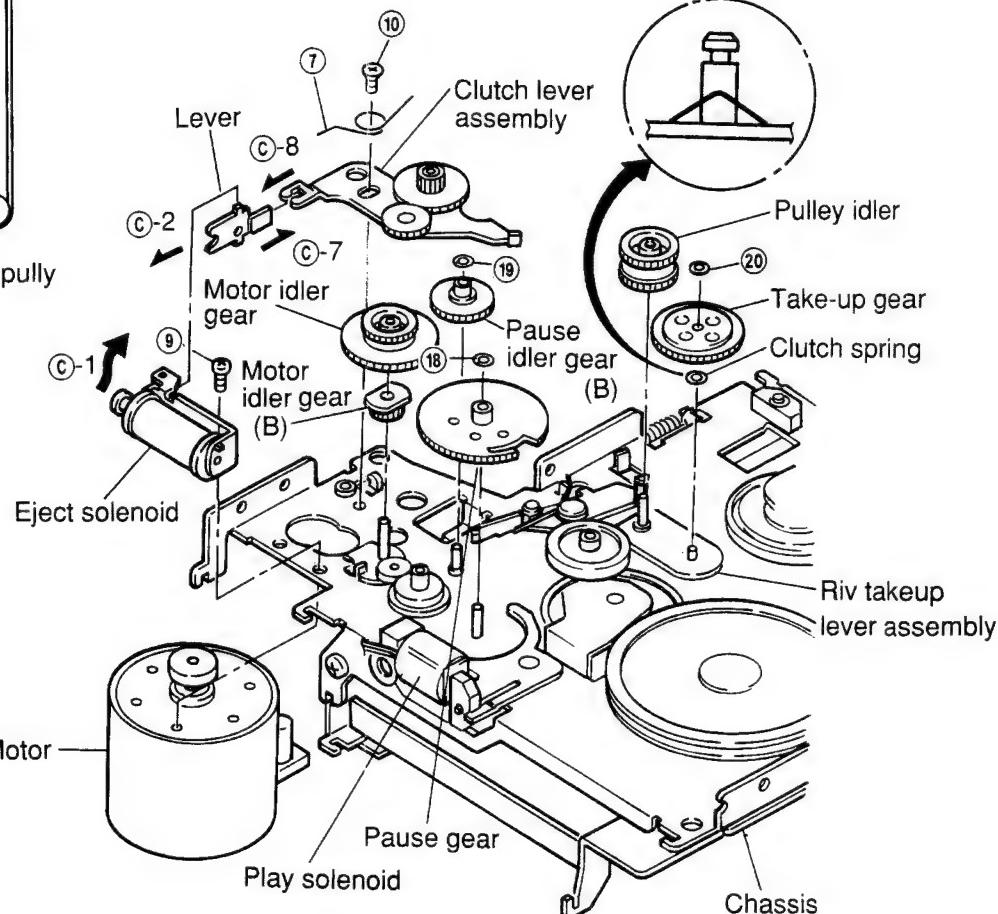
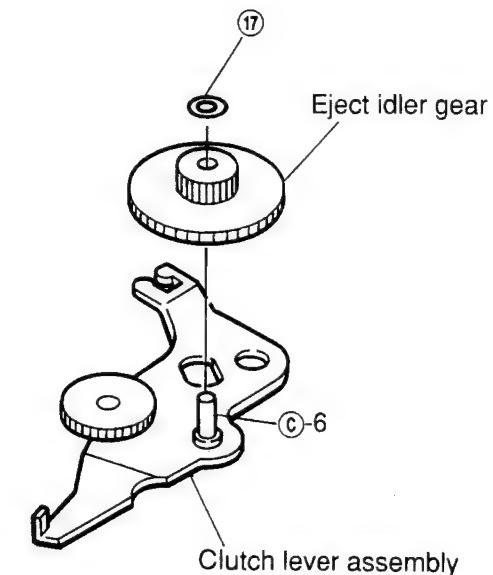

Figure 10
Figure 15
- (1) After removing the belt, remove spring ⑦ as shown in Figure 10.
- (3) Remove two screws ⑨ and ⑩, and remove the motor, taking care not to damage the motor idler gear. (Refer to Figure 10.)
- (4) Mount the new motor following the removal steps in the reverse order.
- (2) Remove screw ⑬ and remove the play solenoid as shown in Figure 10.
- (3) Align position ⑭-1 of the new solenoid with position ⑭-2 of the lever and fasten the screw as shown in Figure 10.
- (4) Lead the wire through the tube and solder it.
- (1) After removing the motor, remove the motor idler gear and the motor idler gear (B) and remove the clutch lever assembly as shown in Figure 10.
- (2) Remove M1.2 lock washer ⑰ and remove the eject idler gear as shown in Figure 15.
- (3) Mount the new gears and clutch lever following the removal steps in the reverse order.
Note: When mounting the gears to the lever, apply grease (FLOIL 425A) to the position ⑰-6 as shown in Figure 15. Align the position ⑰-7 with the position ⑰-8 and mount the clutch lever as shown in Figures 10 and 15.
- (1) Remove M1.2 lock washer ⑰ and remove the pause gear pulling it up from the stud of the chassis as shown in Figure 10.
- (2) Mount the new gear following the removal steps in the reverse order.
- (1) After removing the motor and the motor idler gear, remove M1.2 lock washer ⑰ and remove the gear by pulling it up from the stud of the chassis as shown in Figure 10.
- (2) Mount the new gear by following the removal steps in the reverse order.
- (1) After removing the belt and the pulley idler gear, remove M1.2 lock washer ⑰ by pulling it up from the stud of the riv take-up lever assembly as shown in Figure 10.
- (2) Remount the take-up gear following the removal steps in the reverse order.